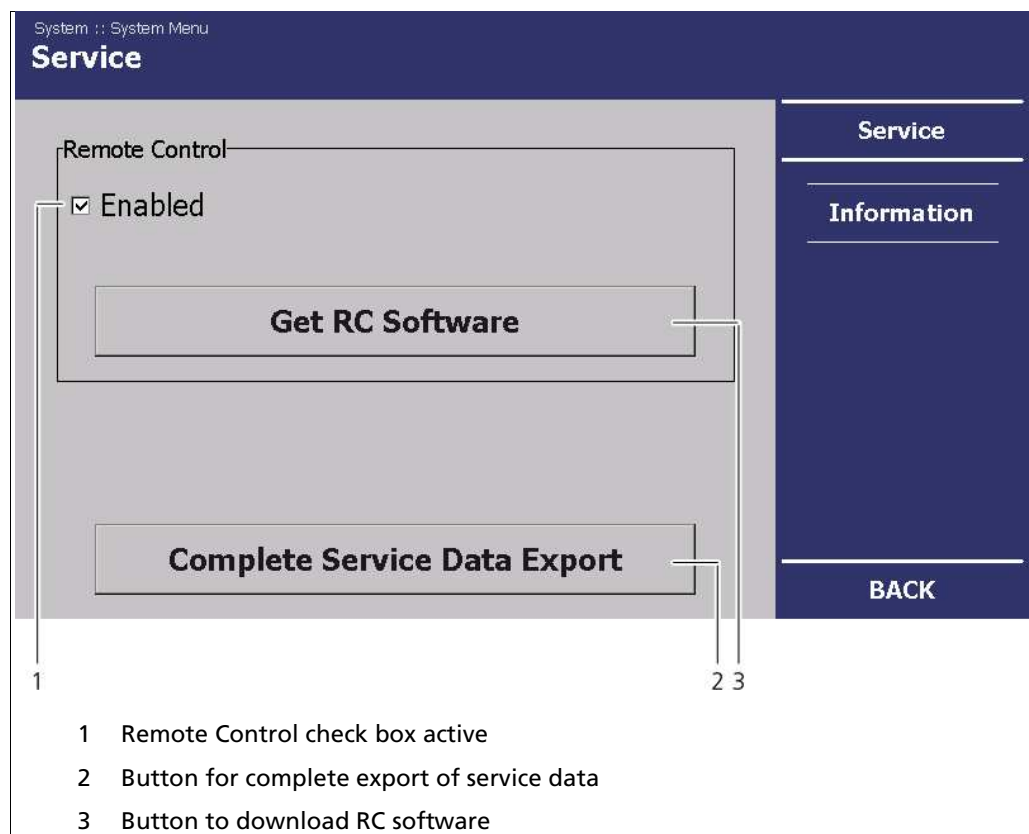

Fig. 39 System Menu, Service
The check mark must be set to "Active" in order for the Remote Control to function (Fig. 39, Pos. 1).
1. Click on "Download RC Software" in order to download the RC software from the EVU to the USB stick (Fig. 39, Pos. 3).
1. Click on "Complete Service Data Export" to load the service data on the USB stick (Fig. 39, Pos. 2).